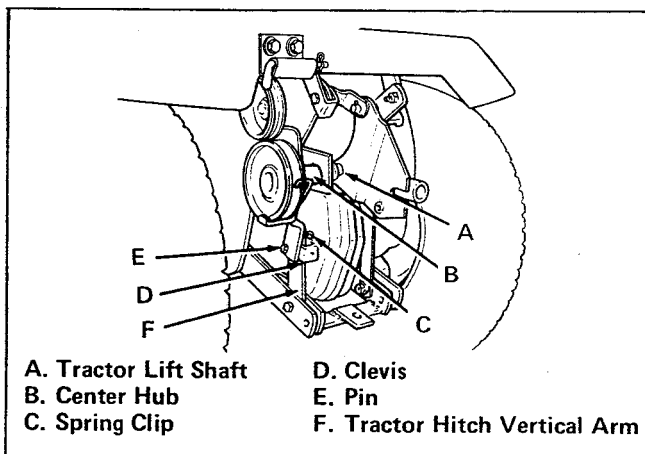

Figure 4. Install Idler Arm and Belt Assembly
9. While holding lower end of idler arm and belt assembly rearward so clevis (item D, figure 4) clears tractor hitch, slide center tube (item B) onto left end of tractor lift shaft (item A).
5. Remove spring clip and pin (items C and E, figure 4). Rotate clevis (item D) up and rearward and then slide idler arm and belt assembly off tractor. Reinstall pin and spring clip in clevis hole.